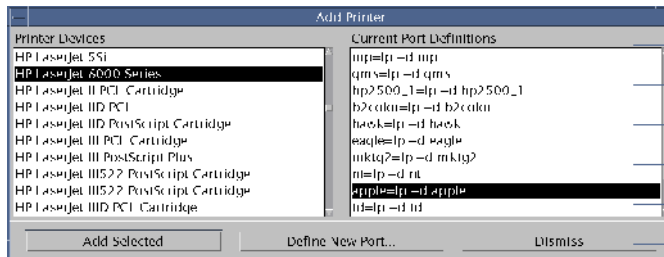

Figure B-4. Add Printer Dialog Box
- 4. **Click *Add Printer*.** This displays the Add Printer dialog box (Figure B-4).